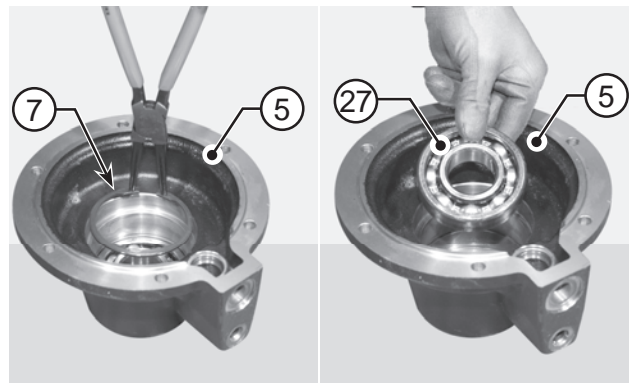

FIGURE 24: Remove the snap ring (7) securing the bearing (27). Remove the bearing (27).
FIGURE 24: Fit new o-rings (14, 15) onto the piston (13) and lubricate both seal and piston (13) with oil. Introduce piston (13) into cylinder (8) and fork (10); install o-ring (15) and piston (13) fully.